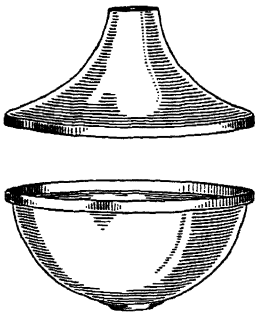
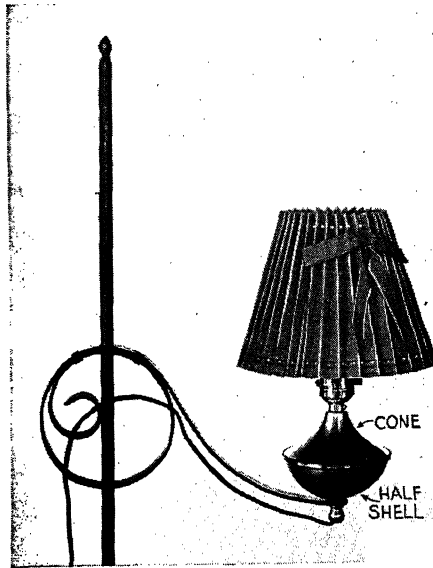

Fig. 231. Parts for lamp body. See Fig. 232 for assembly. Upper: brass cone; lower: brass half shell
Fig. 232. Lamp bowl made from cone and half shell
*Half Shells and Cones.* Figure 231 shows a half shell and a cone used in constructing a lamp body, and an assembled lamp is shown in Figure 232. This lamp body is an imitation of the old oil-lamp reservoir.
9. What parts make up the lamp bowl shown in Figure 232?